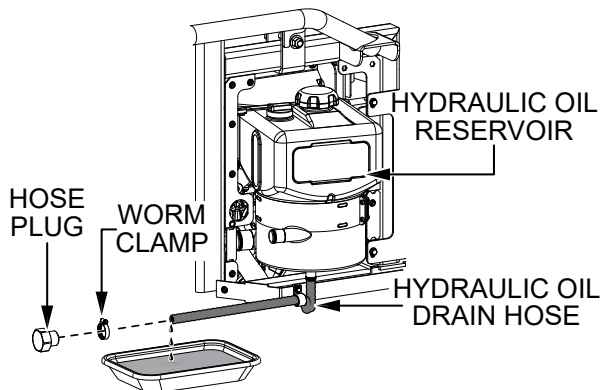

Figure 65. Draining Hydraulic Oil
1. Locate the hydraulic oil drain hose (Figure 65) attached to the bottom of the hydraulic oil reservoir.
3. Remove the worm clamp and plug (Figure 65) from the end of the hydraulic oil drain hose and allow the hydraulic oil to drain completely from the reservoir.